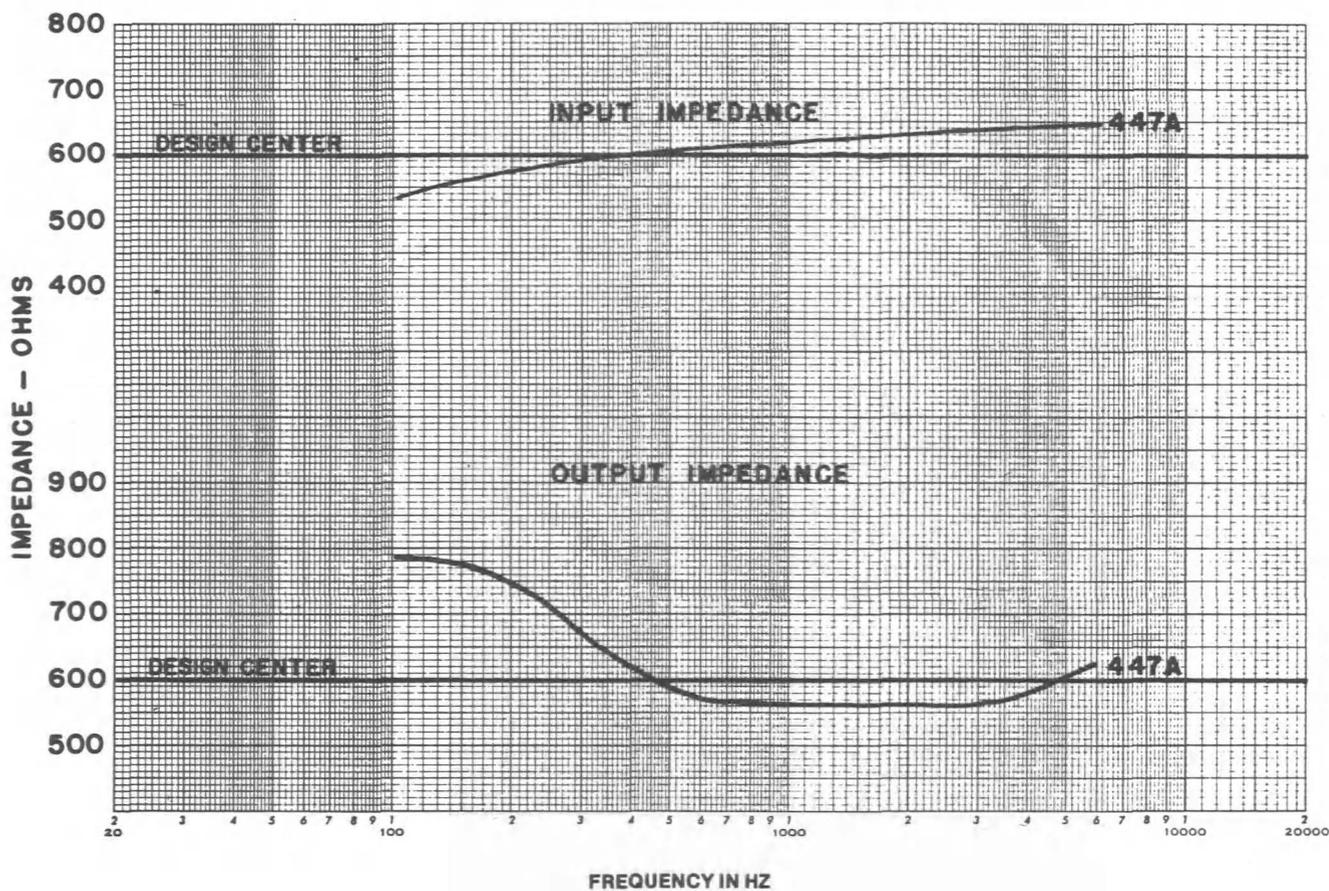

Fig. 2 — Magnitude - Impedance Characteristics
2.02 Impedance characteristics are shown in Figure 2.